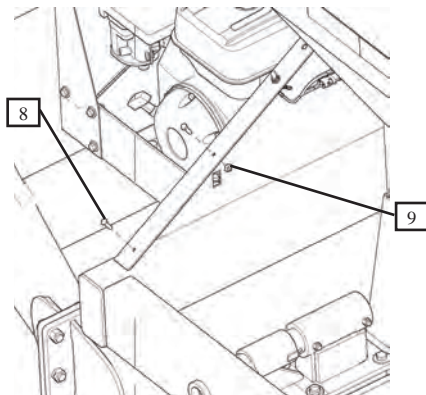
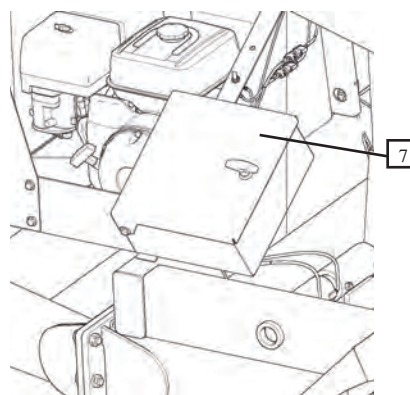

Figure 6.5
Figure 6.6
17. Attach Scale Display Box (#7) onto the Shell/Leg Weldment (Figure 6.6) with 1/4"-20 X 1" Grade 5 Zinc Hex Bolt (#8) and 1/4"-20 Grade 5 Zinc Serrated Flange Hex Nut (#9) (Figure 6.5).